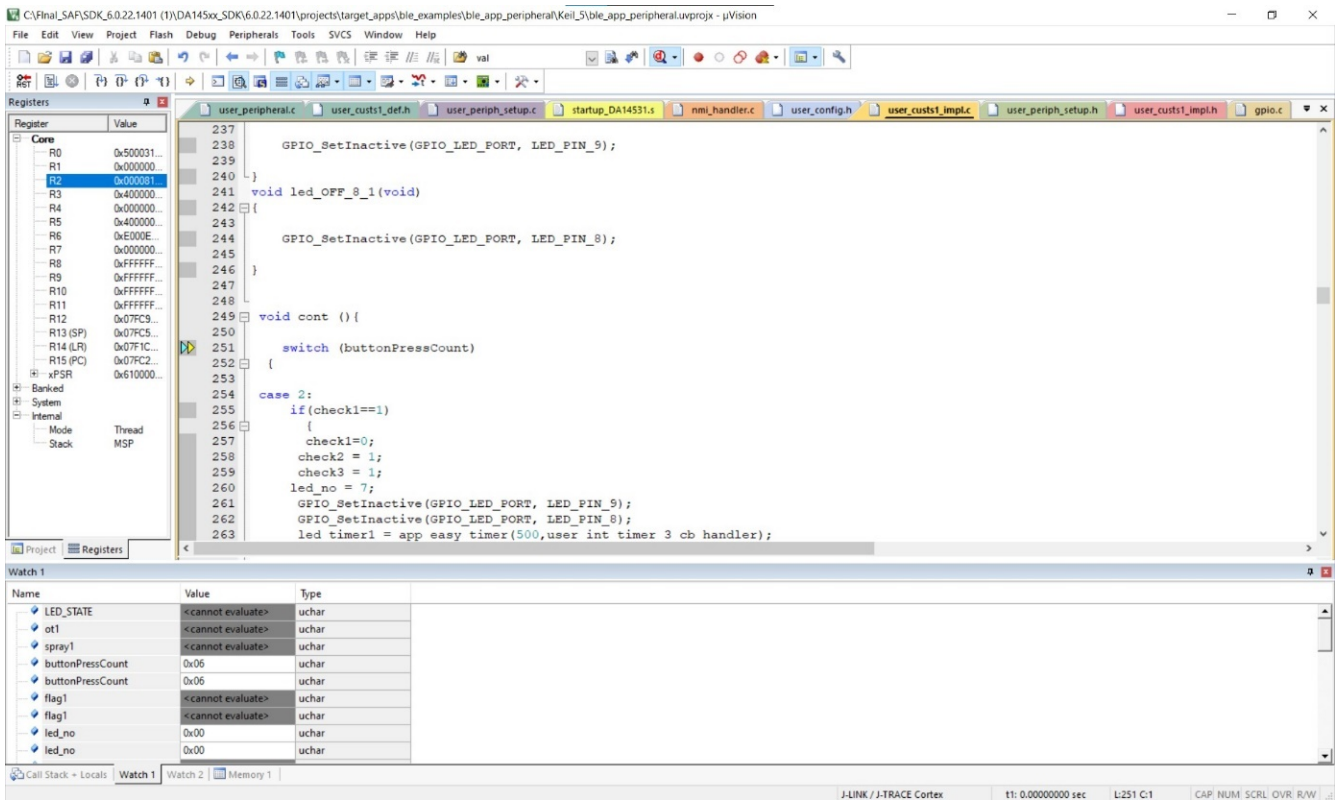

Figure 15. Debug Window
3. Upon a successful download, Keil opens the debug window as shown in Figure 15.